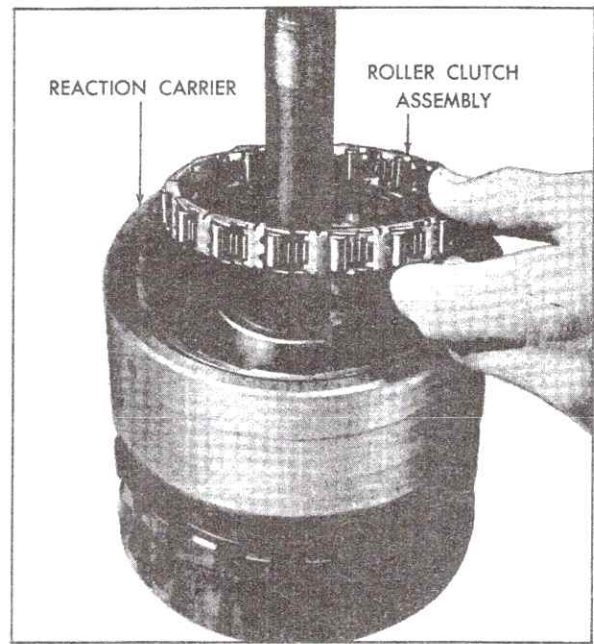

Fig. 7-172 Installing Roller Clutch Assembly in Reaction Carrier
q. Install roller clutch assembly in reaction carrier, Fig. 7-172.